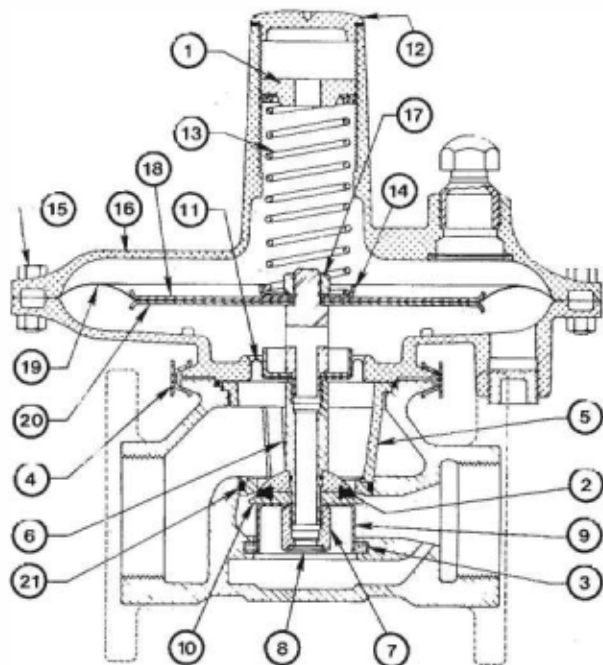

Figure 1
- (b) Install outlet pressure gauge. Remove seal plug, item (12), Fig. 1 for Models 1-1/4", 1-1/2", 2" & 3" only.
- (g) To test for the regulator's ability to fully shut off (lock-up), shut off all flow downstream of the regulator. At lock-up, the outlet pressure will be somewhat higher than the set pressure. However, if the pressure continues to rise after (3) seconds, the regulator must be repaired. Observe for approximately 30 seconds.